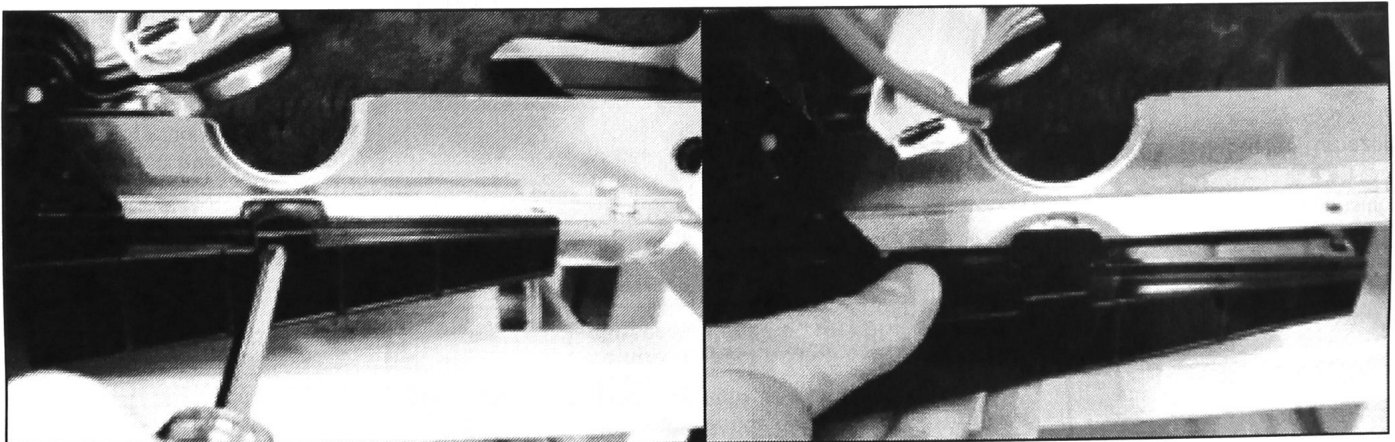

FIGURE 2
- 3) **Unit has the rear tripod leveling mechanism** - The actuator assembly needs to be unfastened (remove 2 fasteners) and removed. See *Figure 2*.